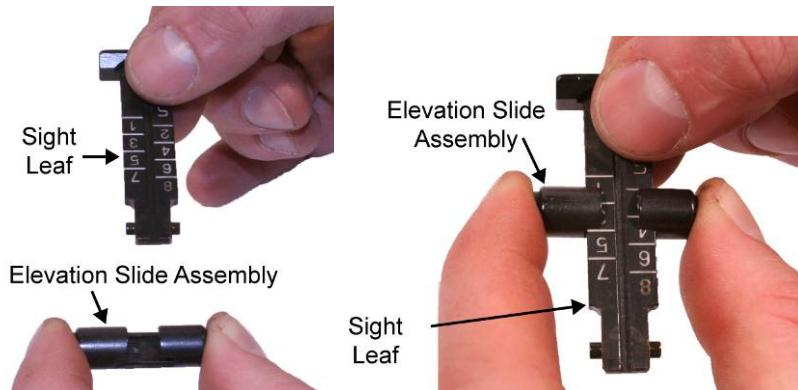

Figure 4. Depressing and Installing the Elevation Slide Assembly onto the Sight Leaf.
2. Depress the elevation slide assembly and install it onto the sight leaf. Ensure the teeth on the elevation slide assembly mate with the teeth on the sight leaf. Refer to Figure 4.